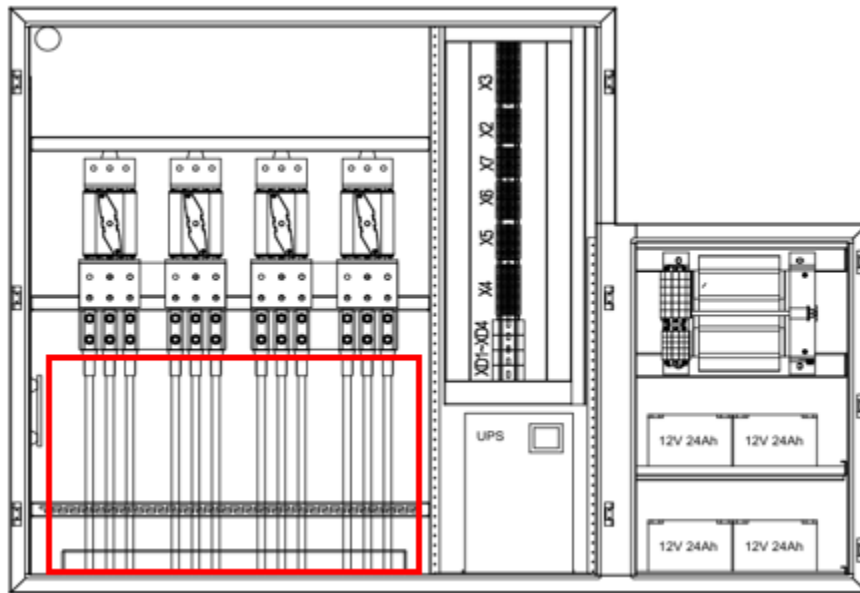

Figure 15. Power cable termination location
- ✓ **Step 2:** Disconnect all DC power cables and remove them by pulling cables through the SolBank3.0 bottom cable entry point, as shown in Figure 15.